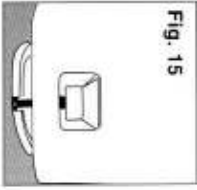

Fig. 15
- 2) **Check the position of the closet flange bolts** being sure they align with mounting holes on Aqua-Magic IV toilet. It may be necessary to rotate the closet flange in order to position bolts properly (Fig. 15).